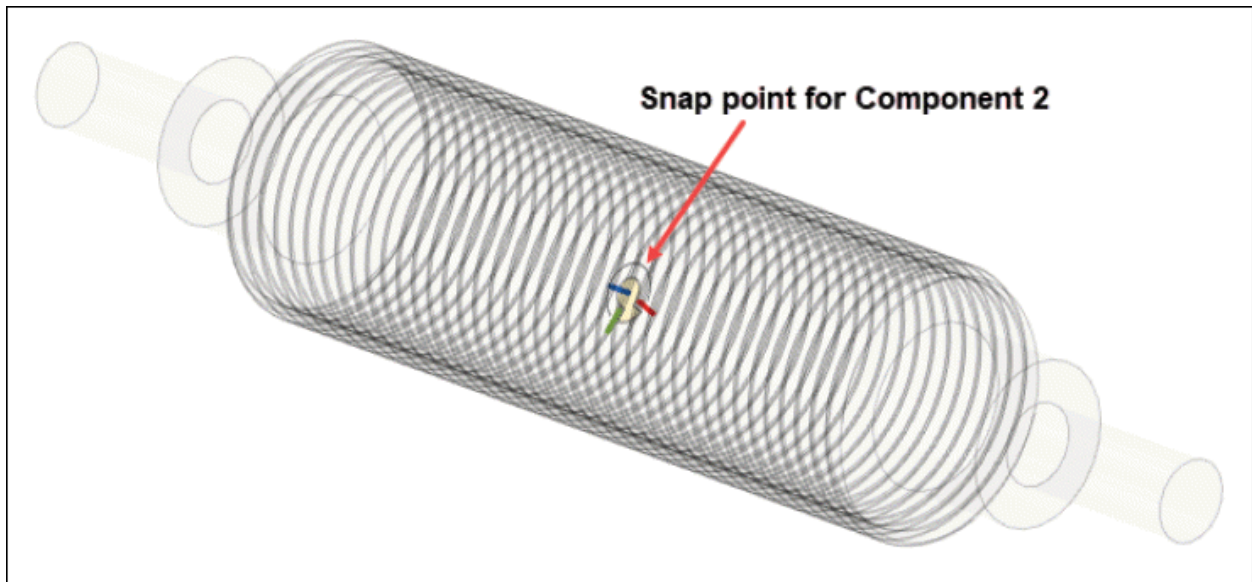
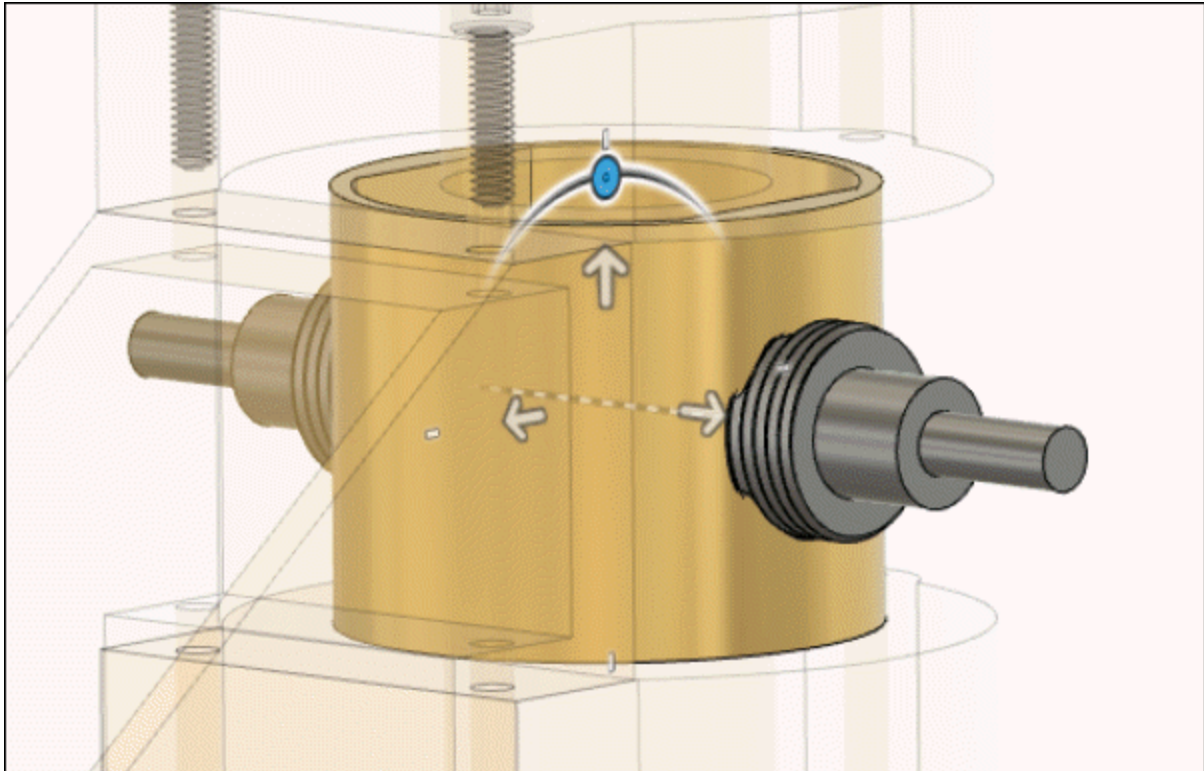

Figure-86. Selecting snap point for Component 2
Figure-87. Components joined
- The **Select** button of **Snap** section will become active. Select the snap point on the component as shown in Figure-86. The components will be joined together; refer to Figure-87.